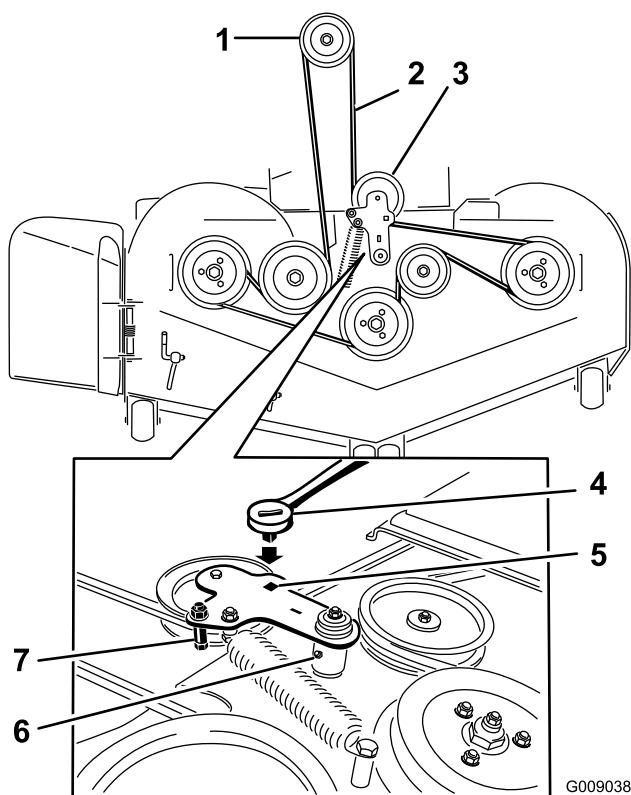

Figure 77
5. Use a ratchet in the square hole in the idler arm to remove tension on the idler spring (Figure 77).
7. Remove the belt guide on the spring loaded idler arm shown in Figure 77.
9. Install the new belt around the mower pulleys and the clutch pulley under the engine (Figure 77).
10. Install the belt guide on the idler arm shown in Figure 77.
11. Using the ratchet in the square hole, install the idler spring (Figure 77).